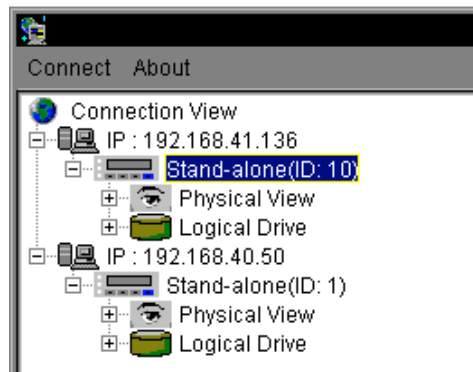

Figure 12-5: Select the IP
Step 2. As shown in *Figure 12-5*, select the IP address of the RAID you would like to monitor from the **Connection View** list. Choose and double click on an IP address. Double click the controller icon for that IP address. Choose and double click the connection method (e.g., In-Band SCSI).